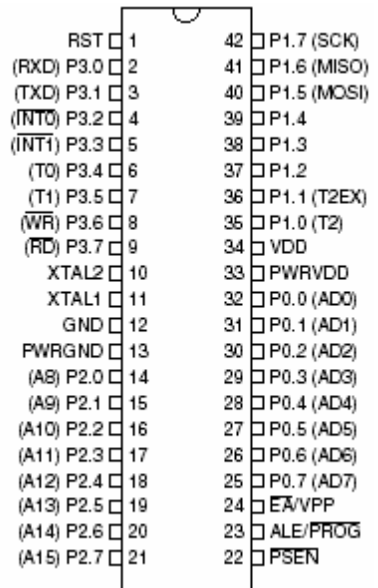

Figure 1.1 : Pin Configurations of AT89S52 Chip
- Figure 1.1: Pin Configurations of AT89S52 Chip